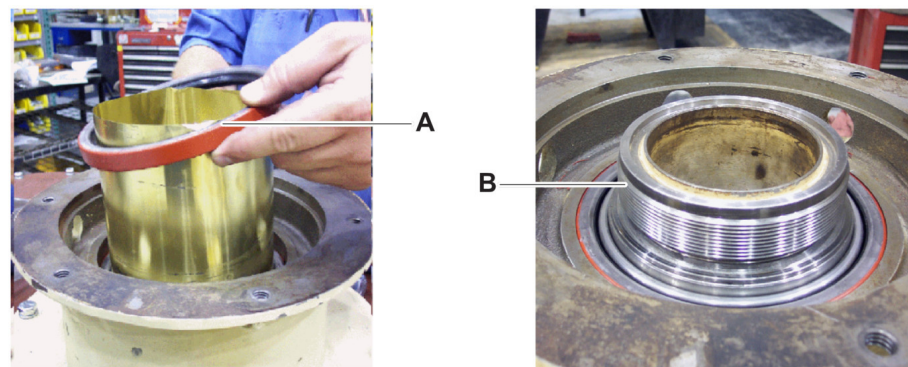

Figure 5
7. Insert the second seal (Figure 5, item A) on the spindle (Figure 5, item B) and orient it to hold the grease inside the cavity. Use a small steel hammer and bronze flat bar to seat the seal into bore. The seal must be flush with top of bore as shown.